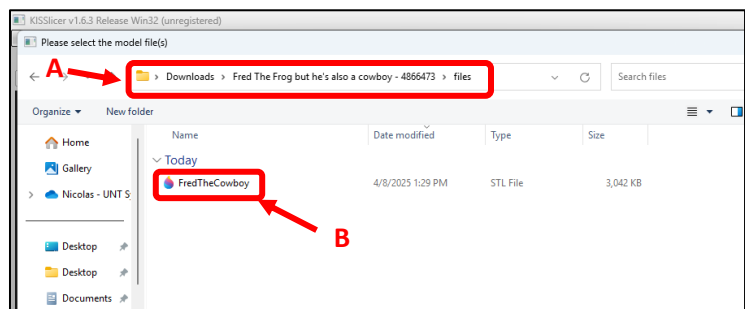

Figure 16: Finding the extracted model.
- 3) Navigate to the directory for the downloaded and extracted model. (Figure 16 – A)
- 4) Double-Click on the chosen model. (Figure 16 – B)